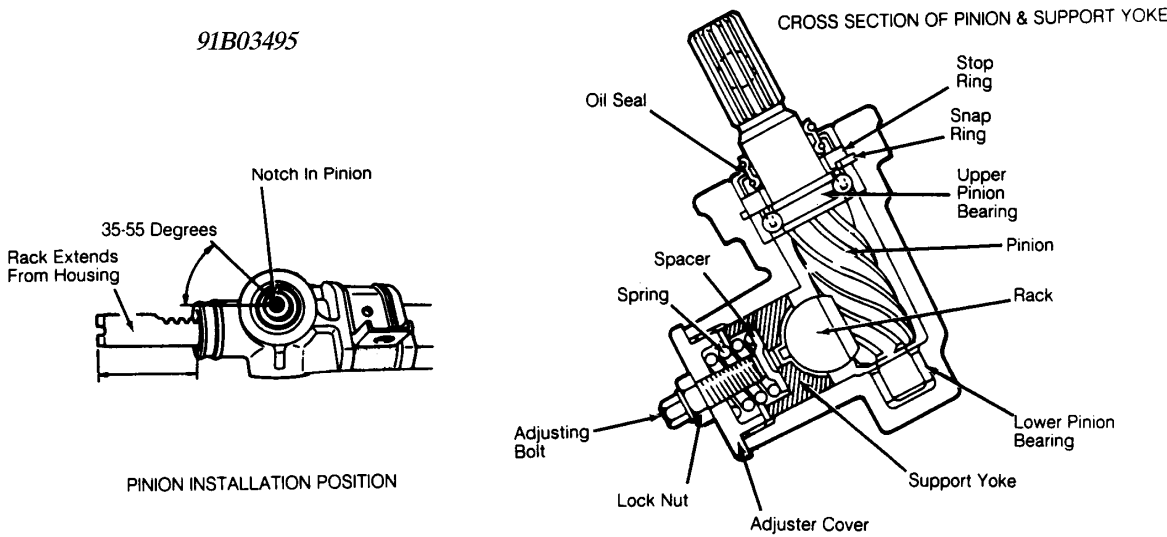

Fig. 2: Removing & Installing Rack Components
2. If previously removed, install a new lower pinion bearing using a bushing installer or a piece of wooden dowel stock. Carefully insert non-toothed side of rack into left end of rack housing, with rack teeth facing pinion bore. Position rack in housing so rack protrudes 2.4" (62 mm) from the left side of housing. Install pinion and upper bearing assembly so that when bearing is seated, notch (for "U" joint clamp bolt) in pinion splines forms a 35-55 degree angle with the centerline of the housing. See Fig. 2 .